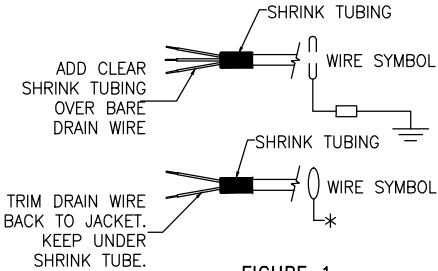

FIGURE 1
3. SEE FIGURE 1 FOR ANALOG SHIELDING SYMBOLS TYPICAL FOR 4–20mA, RTD & THERMOCOUPLE